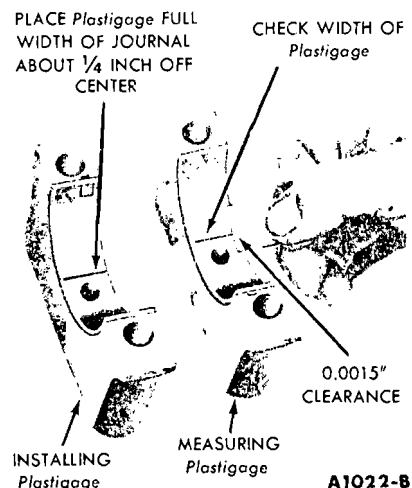

FIG. 40—Installing and Measuring Plastigage—Engine Installed
10. Place a piece of Plastigage on the bearing surface the full width of the bearing cap and about 1/4 inch off center (Fig. 40).